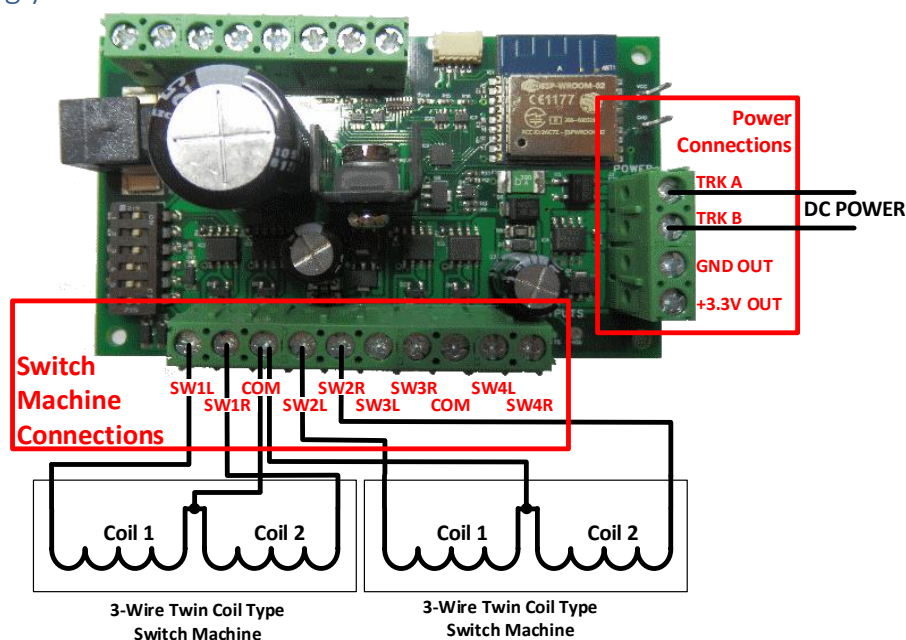
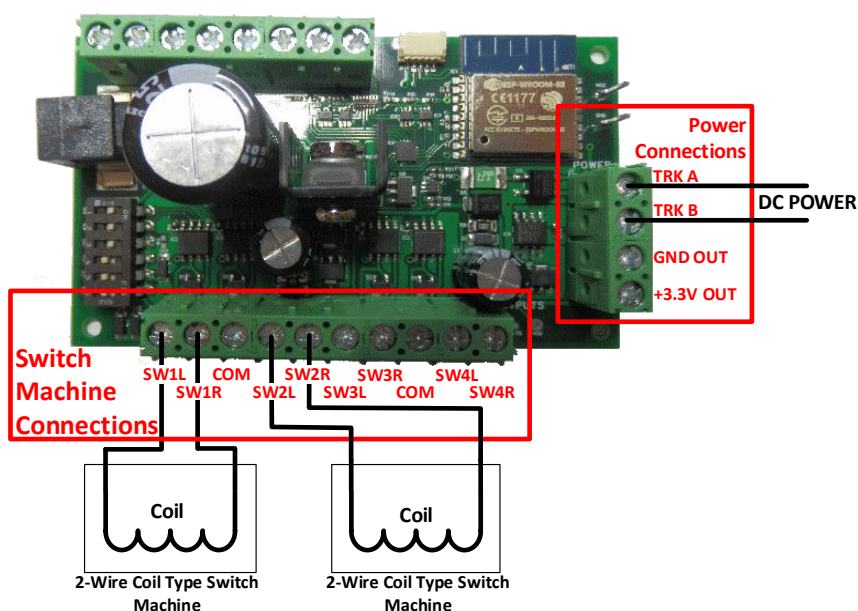
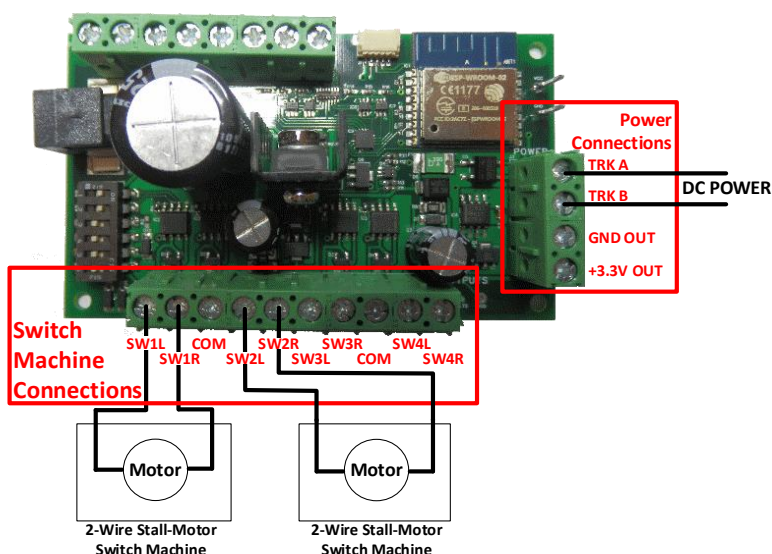
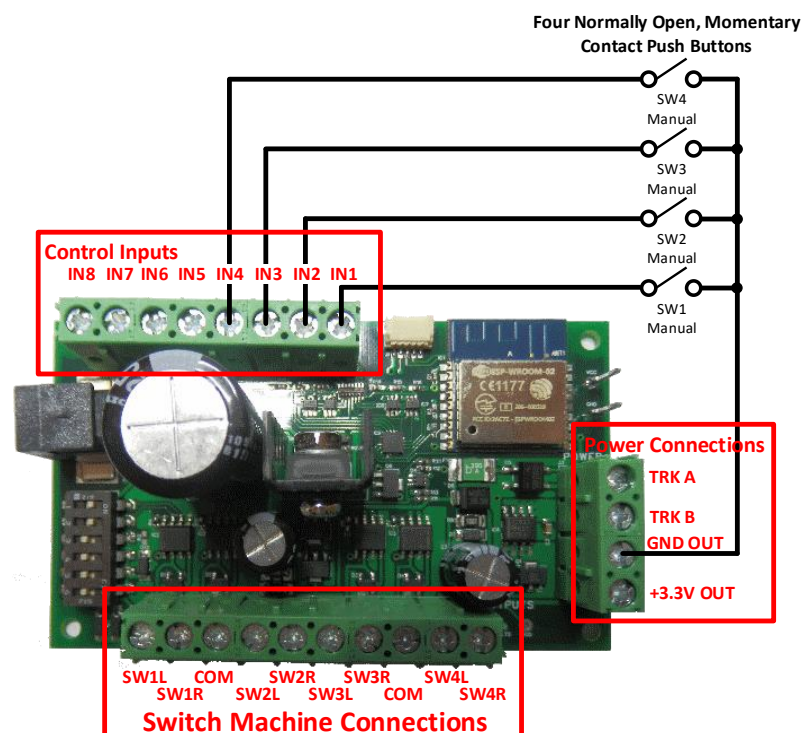

Figure 2 . Connection Diagram for 3-Wire Twin Coil Switch Machines
Figure 3 Connection Diagram for 2-Wire Coil-Type Switch Machines
Figure 4 . Connection Diagram for Stall Motor Switch Machines
Figure 5 Connecting manual control push buttons
Connect your switch machines as in Figure 2 Figure 3 or Figure 4.
The WFS-46 allows for manual control of the switches connected to it using normally-open push button switches connected as in Figure 5. Be sure to connect the common line from the switches to the GND Out (Ground). Do not connect anything to the +3.3V OUT. This is included for possible feature expansion by firmware upgrade and is not currently used. In particular, **DO NOT CONNECT POWER ACCIDENTLY TO THE 3.3V OUT** as this will instantly destroy the module!
- (2) Wire the WFS-46 to your switch machines according to Figure 2, Figure 3 or Figure 4.
- (3) Optionally connect manual push-buttons as in Figure 5.
- (4) Make sure the DIP switches are set correctly.
- (5) Connect power to your unit at TRKA and TRKB as shown in Figure 2 through Figure 4. It does not matter which way round you connect the power. You can also use DCC track power but NOT AC. The power should be between 12 and 18 volts. Alternatively use the Power Jack.